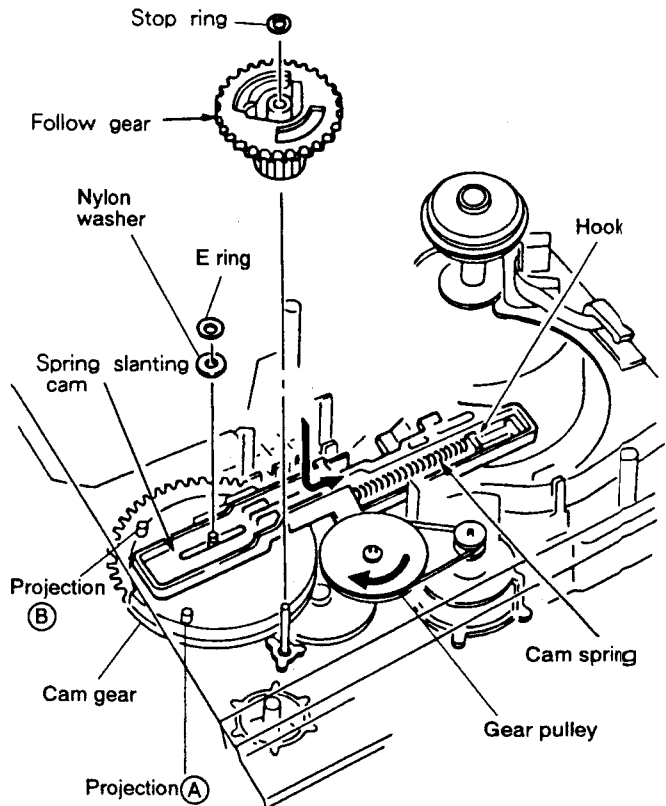

Fig. 13
③ Install a nylon washer and an E ring, and hang the cam spring on the hook. (Fig. 13)
Note: The cam gear and spring slanting cam as shown in Fig. 13 are positioned when installing the slide cam.
- ③ Install the stop ring. (Fig.13)
- ① Set the position of projection ① and ② of the cam gear by turning the gear pulley clockwise by hand as shown in Fig.13.